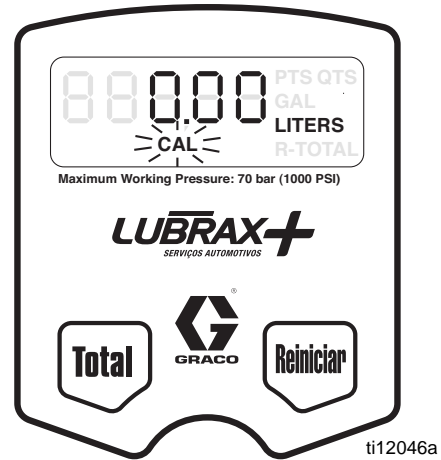

FIG. 13
- c. Press and hold Reset button again to display Calibration Menu. When this menu is displayed CAL blinks on the screen (FIG. 13).
## Calibration (FIG. 13)